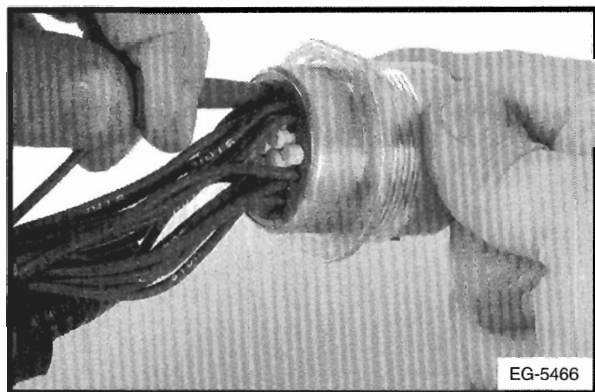

Figure 6-3 - Sliding Tool Into Cavity
2. Slide the tool into the cavity over the contact until resistance is felt (locking fingers released) as shown in (**Figures 6-3 and 6-4**).